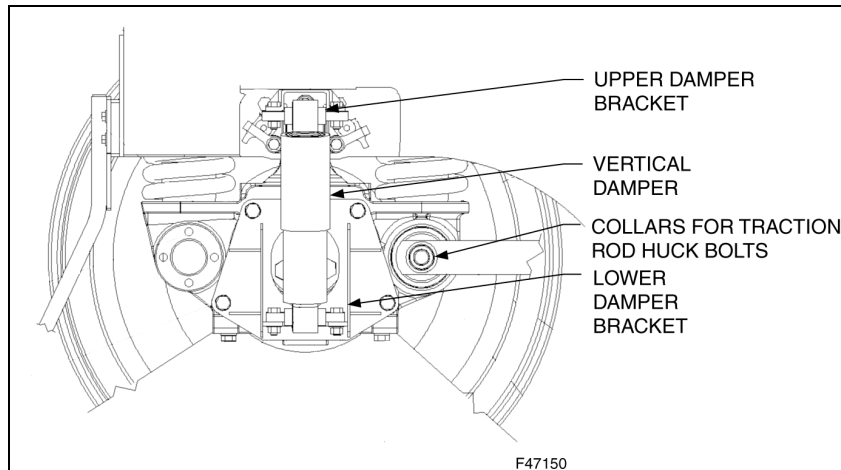

Figure 34 – Vertical Damper Removal
2. Figure 34 shows the configuration on the HTSC-B1 bogie. Here, the damper is removed by loosening the bolts and nuts holding the bar mounts at each end. After all retaining hardware is removed, gently pry the lower portion of the damper away from the lower damper bracket and drop the damper free of the upper bracket on the bogie.